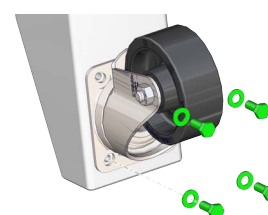

Fig 3.5 Remove/Fit Front Castor
- Remove 4off M8x20 bolts complete with M8 washers that fasten castor to base frame (Fig 3.5).
- Withdraw castor from base frame (Fig 3.5).
- Attach castor to base frame using 4off M8x20 bolts complete with M8 washers, and tighten (Fig 3.5).